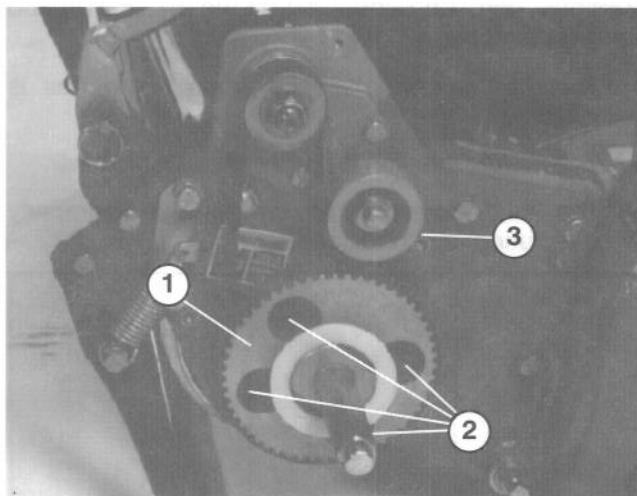

Figure 6
6. Rotate drive pulley until holes align with (4) roller bearing flange screws (Fig. 6).
7. Loosen (4) roller bearing screws and screw securing idler pulley. Raise or lower right side of roller assembly until the gap is reduced to less than .010". Retighten the roller bearing screws. Adjust belt tension and tighten idler pulley mounting screw (Fig. 6).